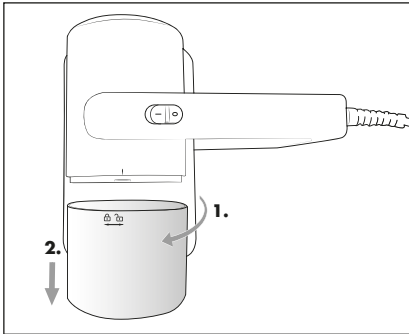

Fig. 4
- 1) To remove it from the appliance, turn the dust container **4** anticlockwise until the marking on the appliance is over the symbol  (open) (Fig. 4).